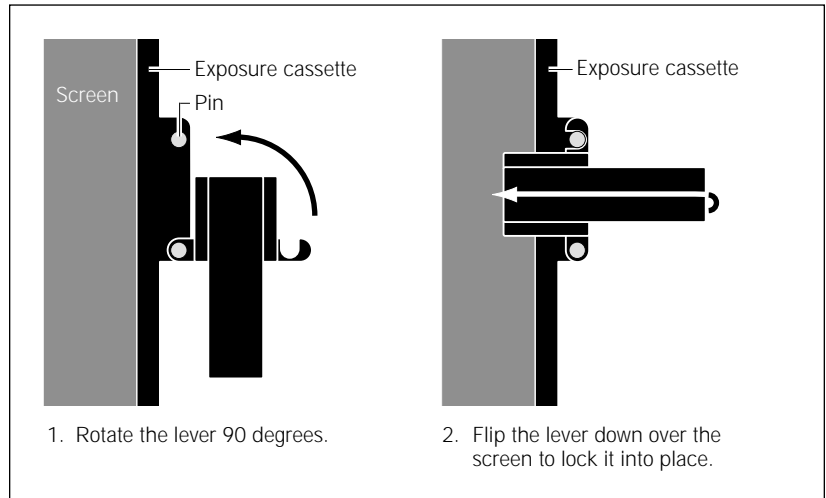

Figure 5-4. Closing the exposure cassette for mounted screens.
- Close the exposure cassette by rotating each clamp counterclockwise until it stops at the pin (figure 5-4) and then flipping the lever over to lock the screen into place.